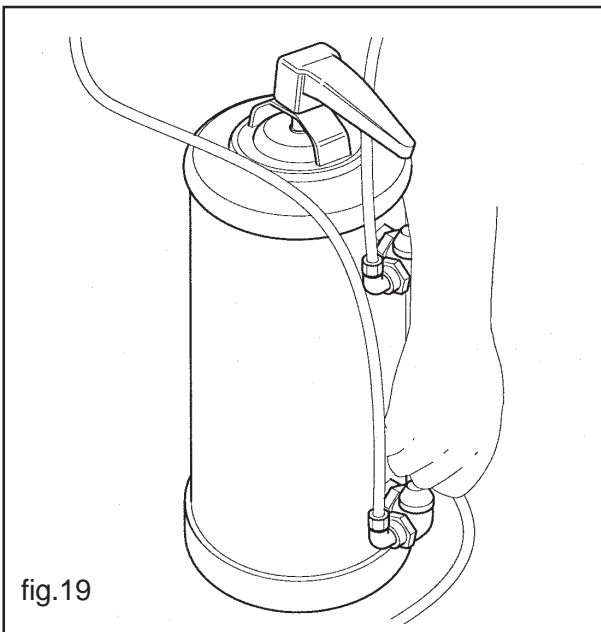

fig.19
- open the bottom tap (fig. 19) and the upper plug of the water softener so as to remove the air bubble.